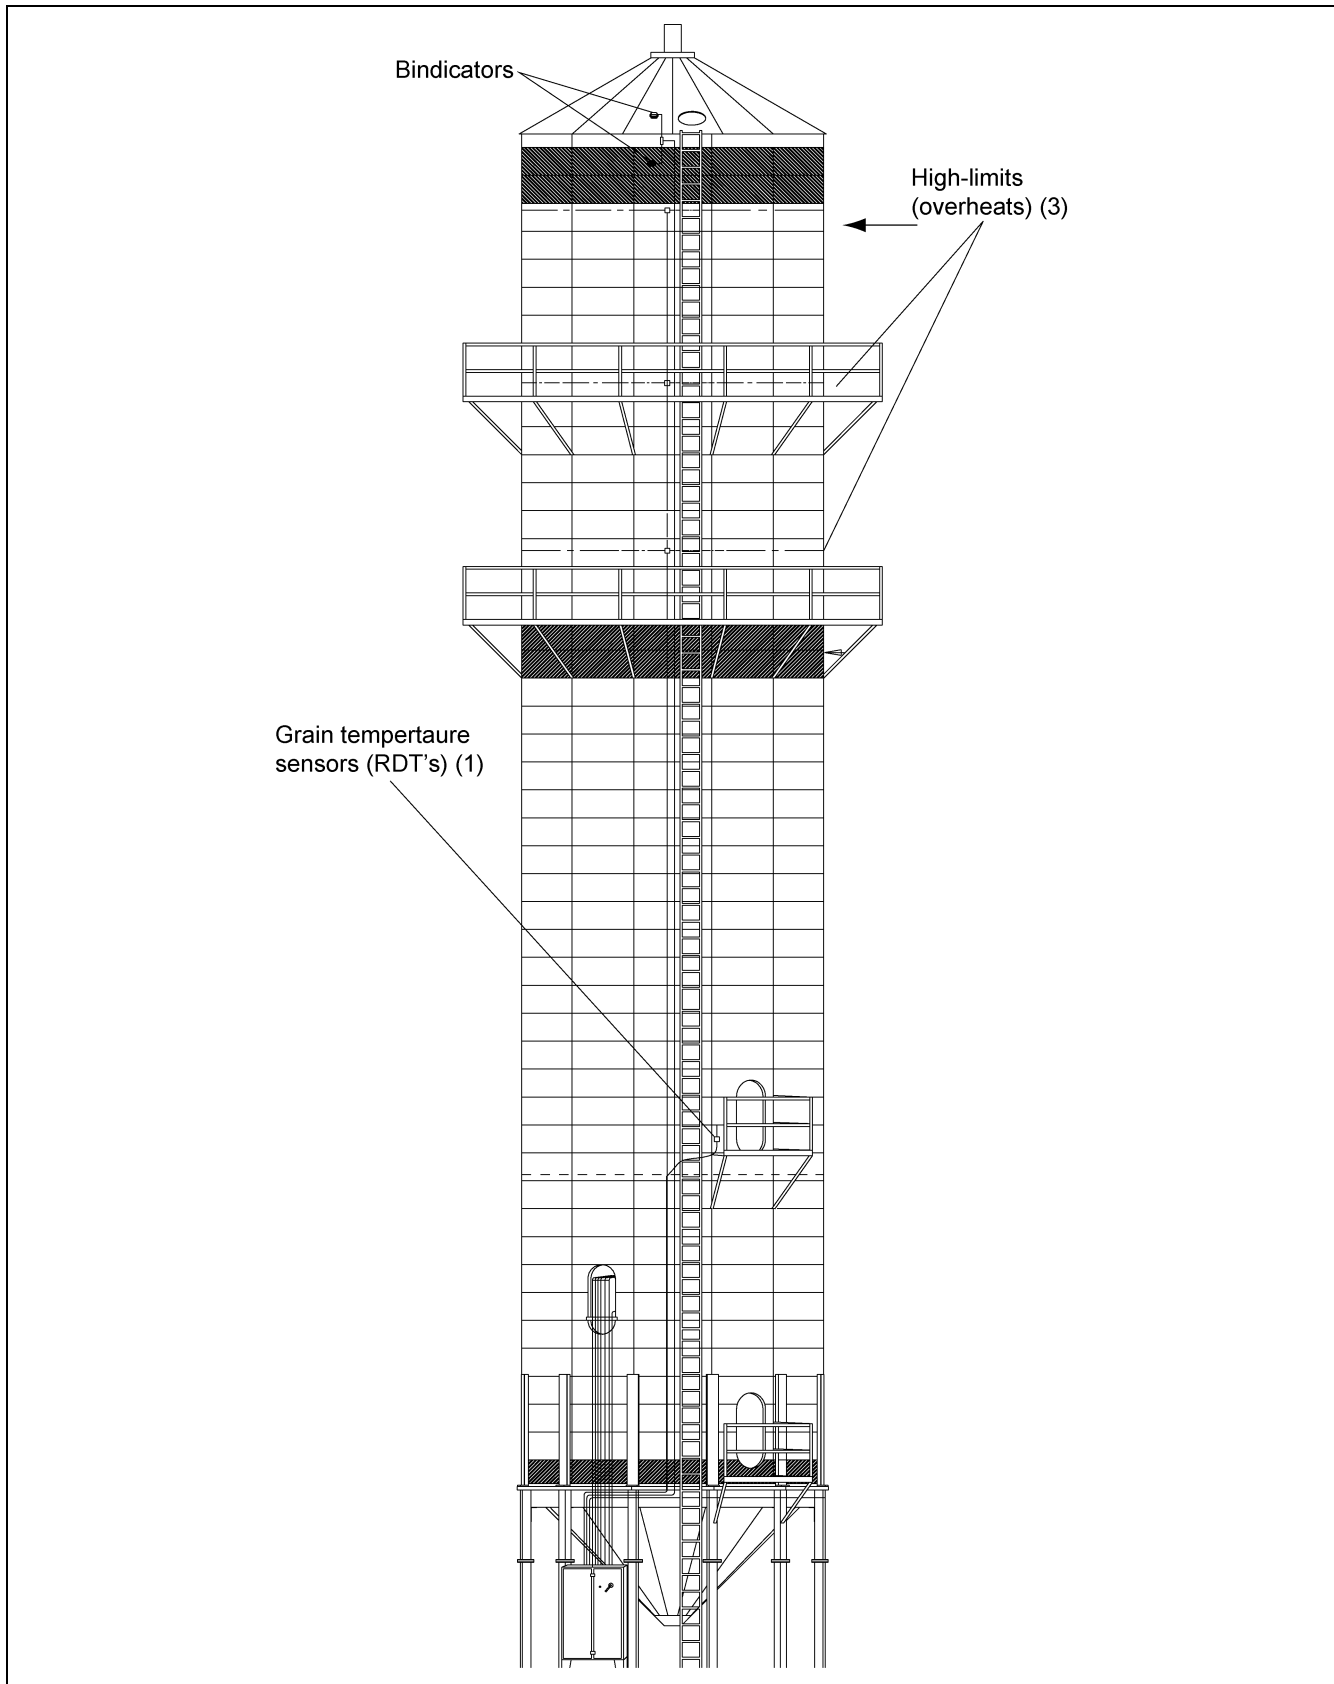

Figure 8A
NOTE: See Figure 8A on Page 97 for placement.
Position RTDs according to Figure 8A on Page 97. Drill hole in dryer wall for sensing bolt on each RTD. Add one (1) 3/8" washer to bolt/washer already on each RTD. Insert sensing bolt in hole. Secure conduit near RTD with 1/2" conduit hanger. Use existing bolts on seam.